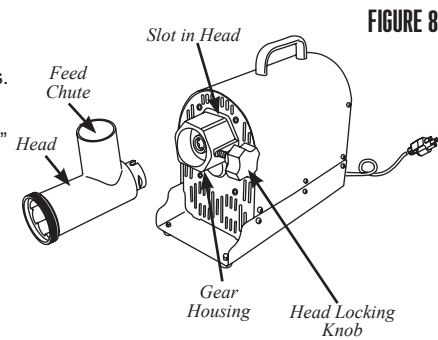

FIGURE 8
1. Insert the Head into the Gear Housing with the feed chute of the Head facing straight up. You will need to line up the slot in the Head with the Pin inside the Gear Housing. Be sure the Head is seated fully into the Gear Housing (FIGURE 8).